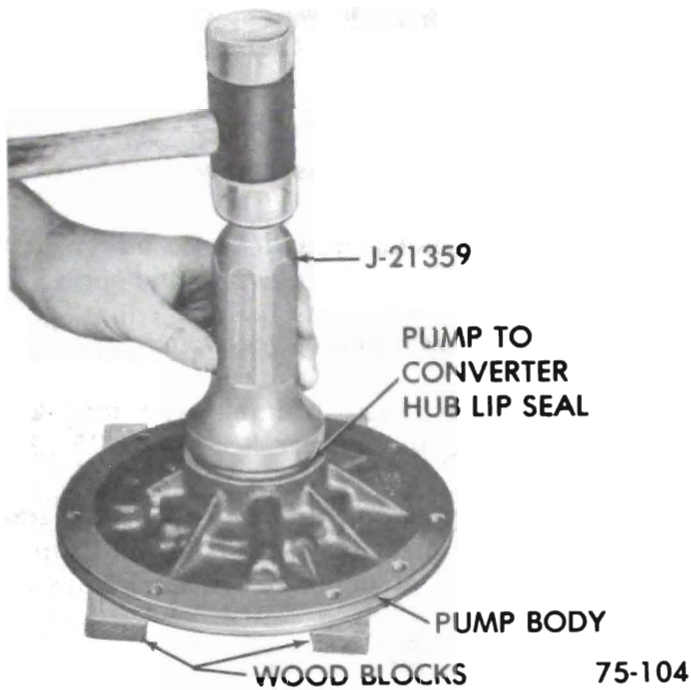

Figure 75-142
10. Place pump on wood blocks so surface finish is not damaged and install pump to converter hub lip seal using Seal Driver J-21359. See Figure 75-142. Make certain lip seal is not turn or nicked.